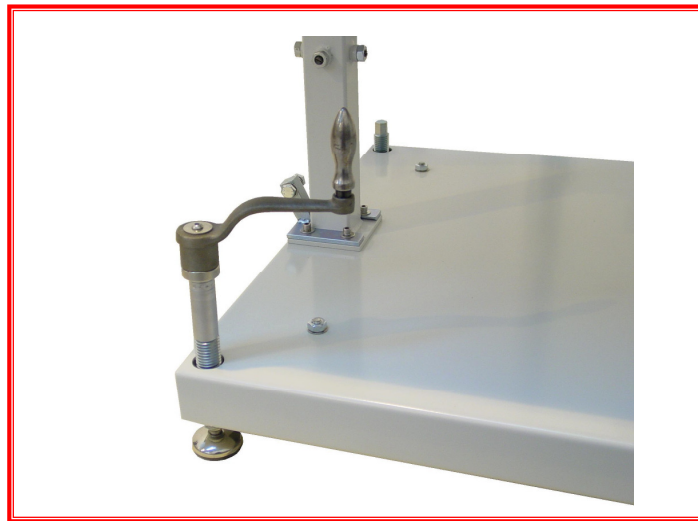

Fig 1.2 Lowering the Feet with the Adjustment Tool
- Position the conveyor stacker such that it is square on to the preceding ancillary unit. Lock the unit into position by lowering the feet using the adjustment tool in Fig 1.2.